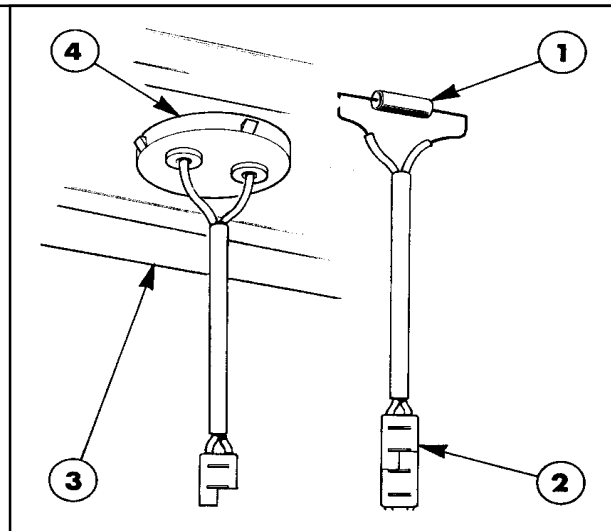

Figure 11
2. Connect a voltmeter between the sensor lead and the alternator frame (negative side of voltmeter to frame). Battery voltage should be registered. If battery voltage is not registered, disconnect the harness to sensor plug and connect a 205 ohm resistor across the plug terminal, Figure 11.
NOTE: It is recommended that a permanent test piece be made by removing the plug and leads from an old sensor unit and connecting a 205 ohm resistor as shown in Figure 11.